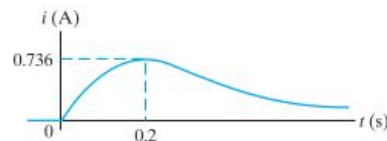

Figure 6.3 ▲ The current waveform for Example 6.1.
- Figure 6.3 shows the current waveform.
- $di/dt = 10(-5te^{-5t} + e^{-5t}) = 10e^{-5t}(1 - 5t)$ A/s; $di/dt = 0$ when $t = \frac{1}{5}$ s. (See Fig. 6.3.)